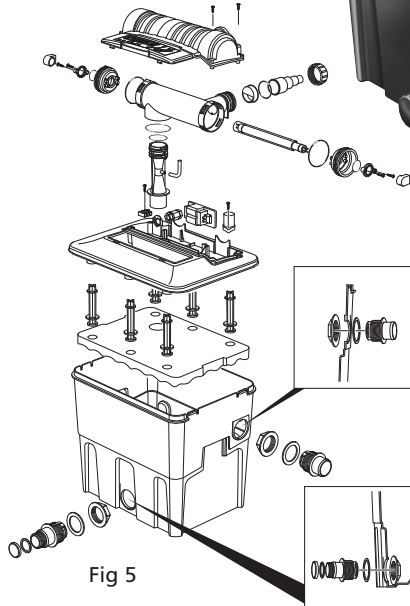

Fig 5
1.4 The filter outlet connector and overflow moulding (x2 on EcoPower+ 9000) should be secured to the side of the vessel (See Fig 5). The outlet hose (if fitted) should be secured in the same way as the inlet hose. Avoid kinks and bends, and keep hose runs as short as possible (preferably less than 1m) to minimise flow restrictions.